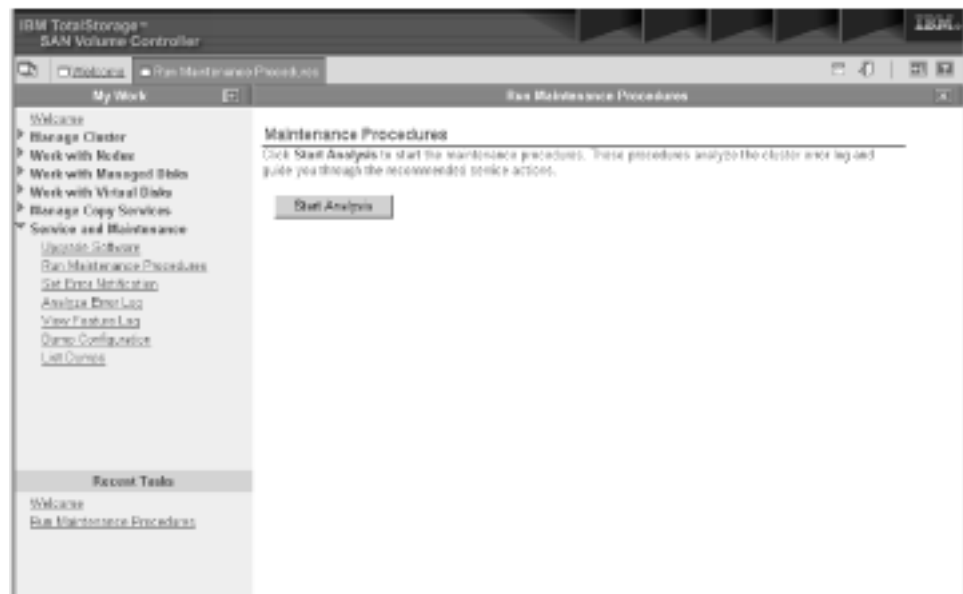

Figure 49. Example of what is displayed when you start the directed maintenance procedures
1. When directed maintenance procedures start, you will see what is displayed in Figure 49.